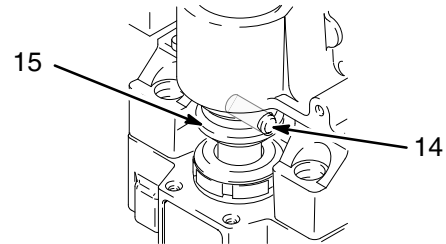

Fig. 19
1. Try to stop pump with piston rod (222) in lowest position. To lower piston rod manually, remove motor shield (32) and rotate motor fan blades. Use a screwdriver to push retaining spring (15) up and push out pin (14). See Fig. 19.
3. Remove motor shield (32).